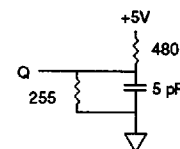

Fig. 2 OUTPUT LOAD EQUIVALENT
- ^tLZCE, ^tLZOE, ^tLZWE, ^tHZCE, ^tHZOE and ^tHZWE are specified with CL = 5 pF as in Fig. 2. Transition is measured ± 200mV typical from steady state voltage, allowing for actual tester RC time constant.